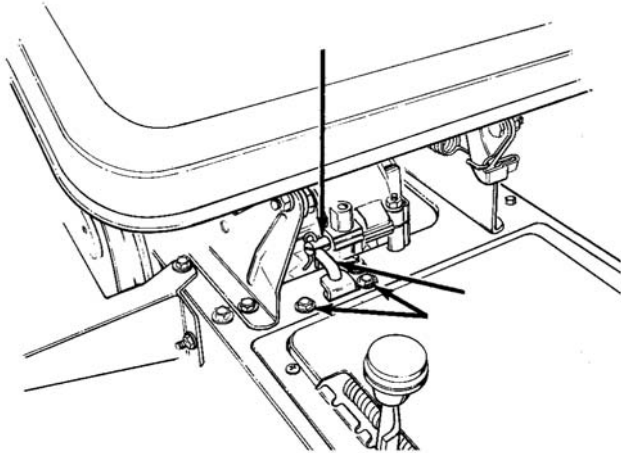

Figure 4-37. Neutral Adjustment
3. Place the shift lever in the neutral slot. Retighten the bolts. See Figure 4-37.